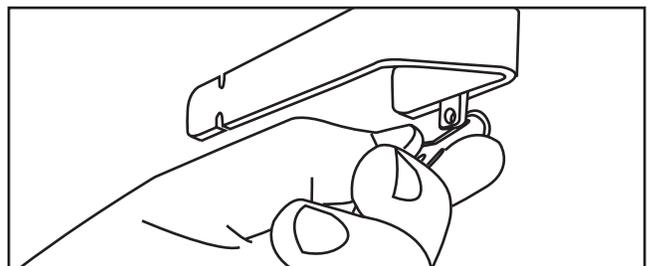

Figure 2.7.2 - Hook back baton into carrier arm eyelet
**7.2 - For a back mounted baton**, locate the eyelet under the carrier arms and connect the baton with a clip. See Figure 2.7.2.